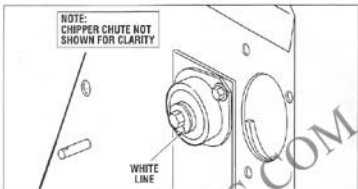

Figure 4-6: Check white line on bearing collar.
3. Move the Throttle Control Lever to FAST. When operating the PTO Chipper/Shredder, always use the FAST throttle setting. See Figure 4-6.
**IMPORTANT:** The bearing collar on the chipper/chute side of the PTO Chipper/Shredder has a white line painted on it. When this white line is stationary, the cylinder assembly has stopped rotating. See Figure 4-6.